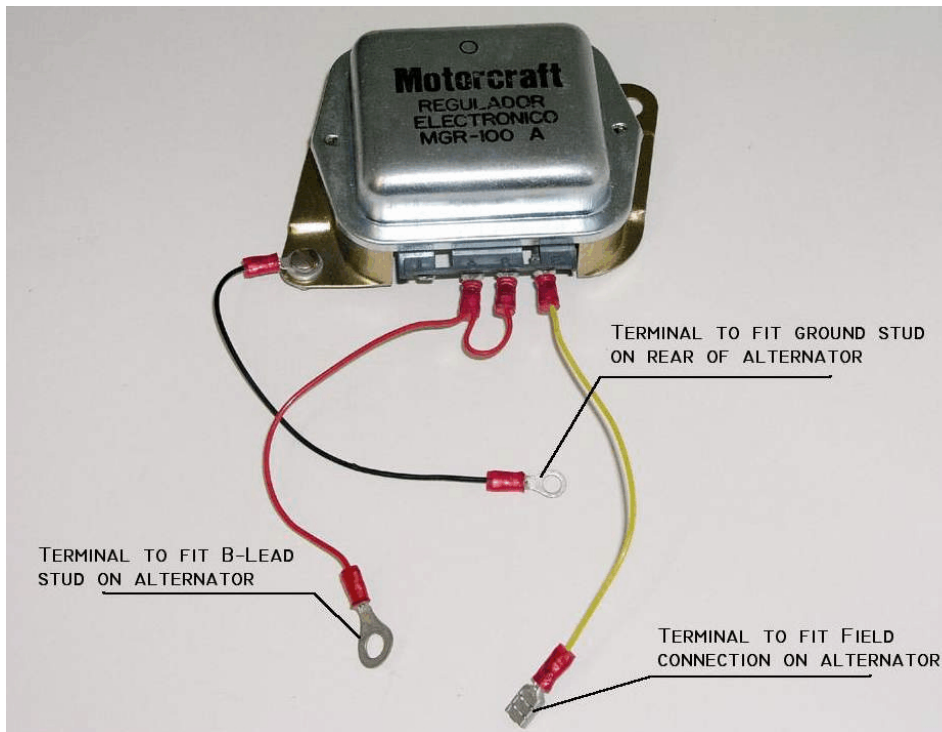

Figure 3-8. Externally Regulated Alternator Test Fixture.
If your alternator is externally regulated, you need to know if the fault is with the (1) alternator or (2) regulator, OV protection and associated wiring. Figure 3-8 illustrates a low cost test tool for the externally regulated alternator.